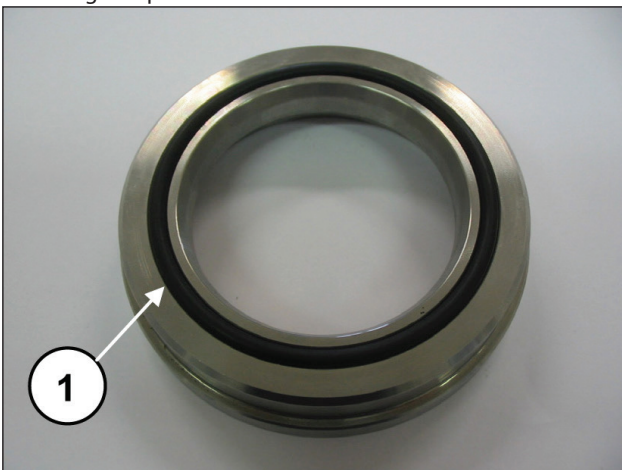

Fig. 173
Now assemble the O-ring (pos. ①, Fig. 173) on the packing head ring and position it in the seat on the head.